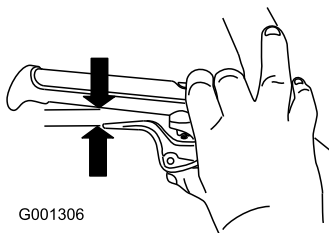

Figure 10
5. Squeeze the lever fully, then check the gap between the bottom of the handle and the wheel-clutch lever end (Figure 10).